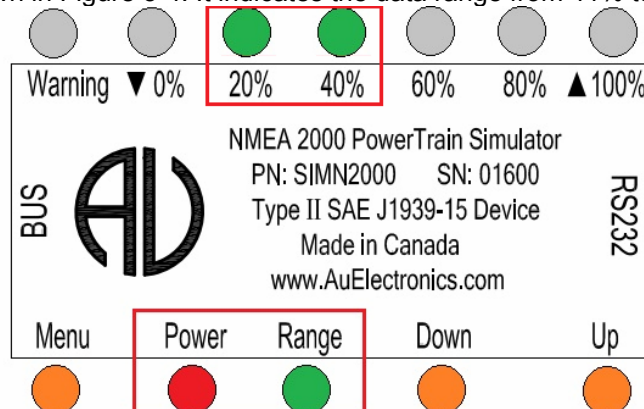

Figure 3-4 Power, Range, 20%, 40% LED on, indicating data range is from 41% to 59%
- If keep pressing **Up** button, the control step value will keep increasing. The 20% and 40% LED will be always on, as shown in Figure 3-4. It indicates the data range from 41% to 59%.